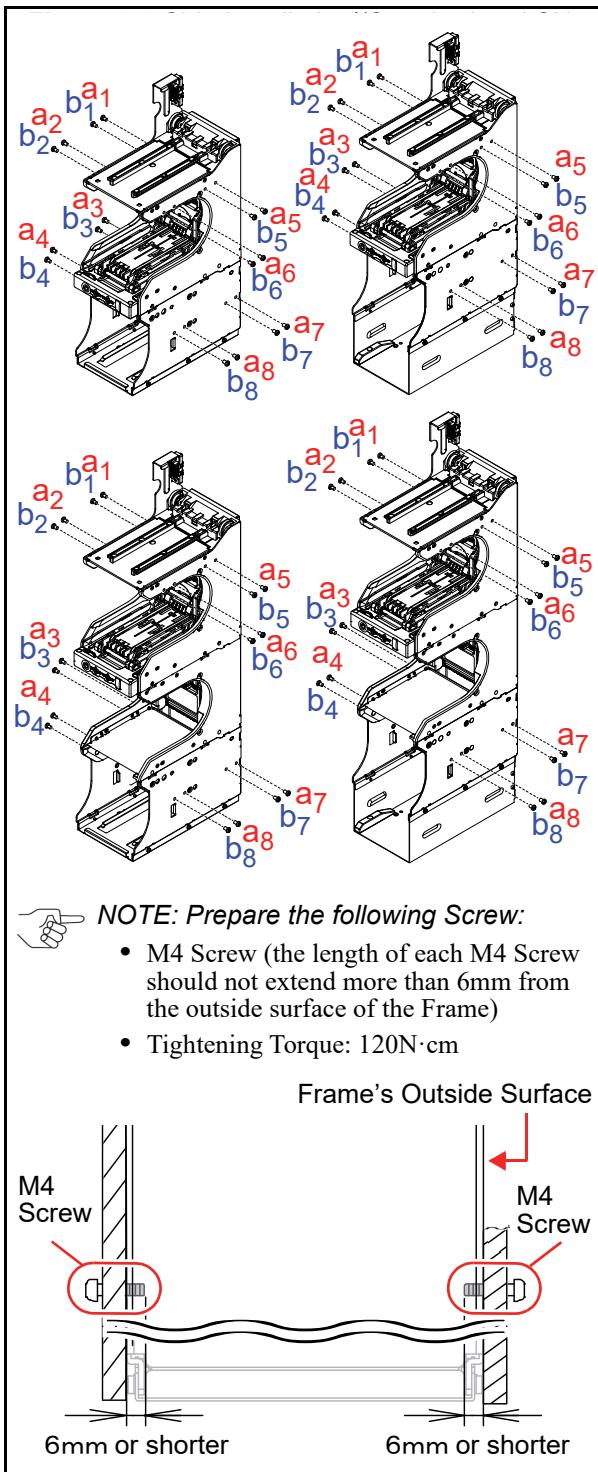

**Figure 2-1 Grounding**
1. Install the Toothed Washer (Figure 2-1 a), the Grounding Wire (Figure 2-1 b) and then the Screw (Figure 2-1 c) into the Frame Ground (Figure 2-1 d) in order.